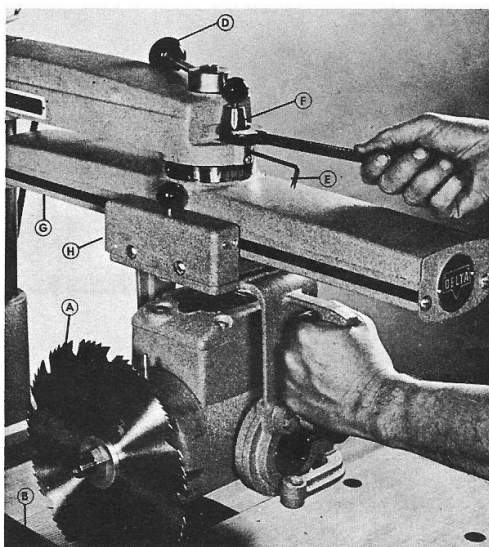

FIGURE 9
Check saw travel for squareness with table fence, see Fig. 9. To do accurate work, saw travel must be 90 degrees to table guide fence. If it is not square, this means that arm-track (G) is not properly aligned to table guide fence.
2. Remove cover (H) Fig. 9.